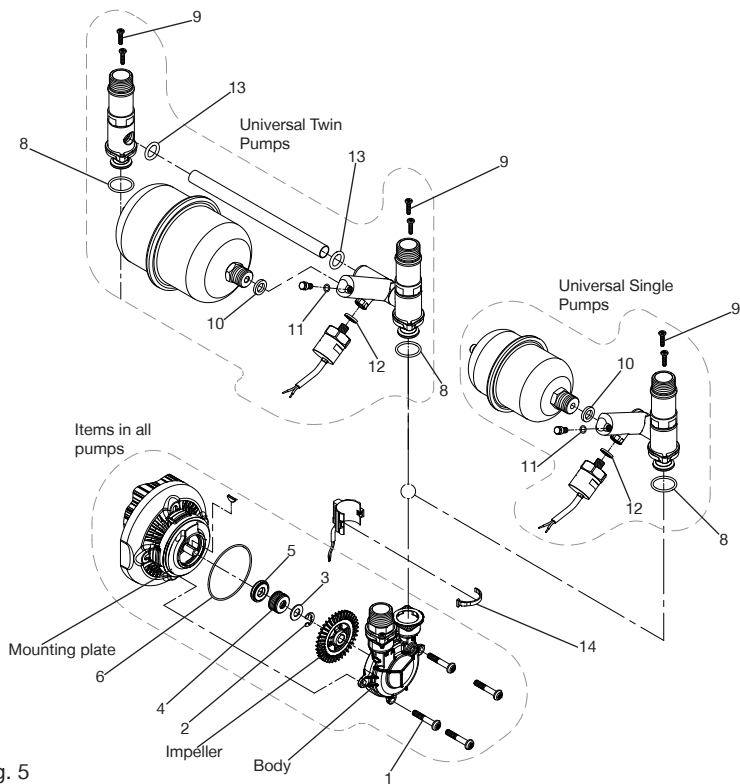
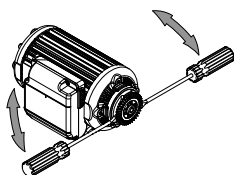

Fig. 5
Fig. 6
To disassemble the pump, the following items are required to be removed in the sequence detailed (Fig. 5).
- Remove screws (A) and lift complete assembly away and position next to pump ensuring no stress is placed on the cables.
- Remove 4 screws (item 1) and gently prise off the pump body – note 'O'-ring (item 6) between pump body and mounting plate.
- Slide impeller away from shaft and remove woodruff key (item 7) – (see note: Fig. 6).
- Remove circlip (item 2) and mechanical seal parts. (items 3 & 4).
- Remove Counterface (item 5) from its mounting plate location.
- Note: Other parts are supplied in this kit and can be used as shown in Fig. 5 if replacement required.
Difficulties may be experienced in the removal of the impeller. To overcome this, two screwdrivers can be used to gently lever the impeller away from the shaft as detailed (Fig. 6), ensuring equal pressure is applied to each side of the component to avoid bending the shaft.
The seal is shown in order of identification in Fig 5.